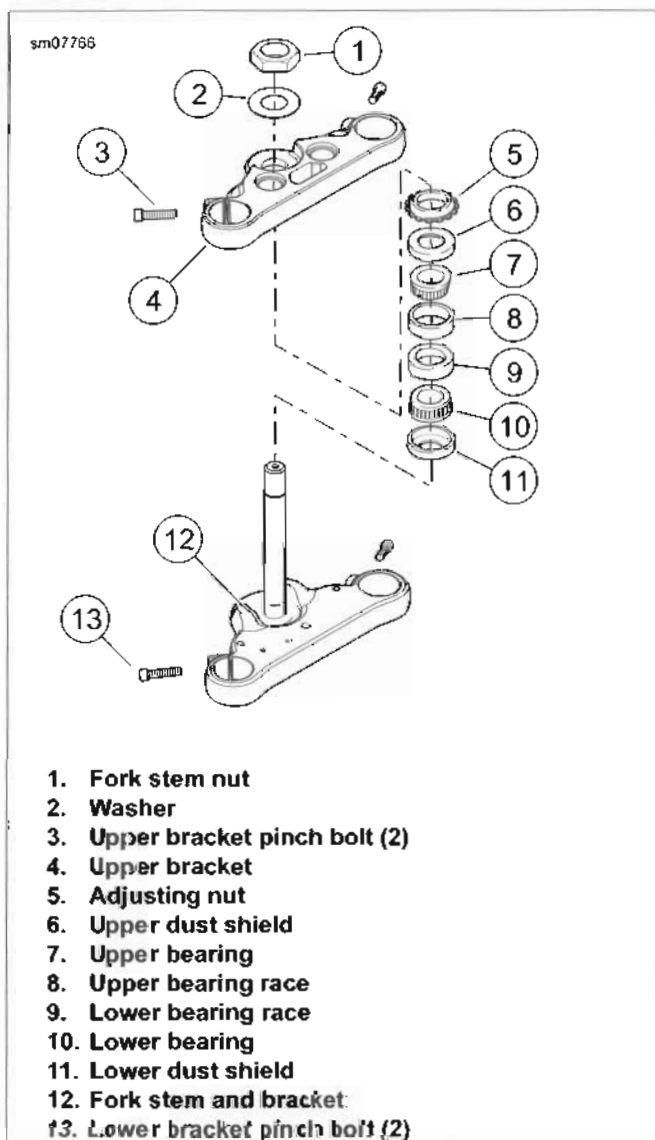

Figure 2-85. Steering Head: FXSB
3. See Figure 2-85. Remove the brake hose bracket from the bottom of the fork stem and bracket (12).
6. Remove the fork stem nut (1) with the handlebars and upper bracket (4) as an assembly.
7. Remove the adjusting nut (5) and pull the fork stem and bracket out of the steering head.
8. Remove the upper dust shield (6) and upper bearing (7) from steering head.
1. See Figure 2-85. Insert the fork stem bracket assembly (12), with lower dust shield and bearing, into the frame